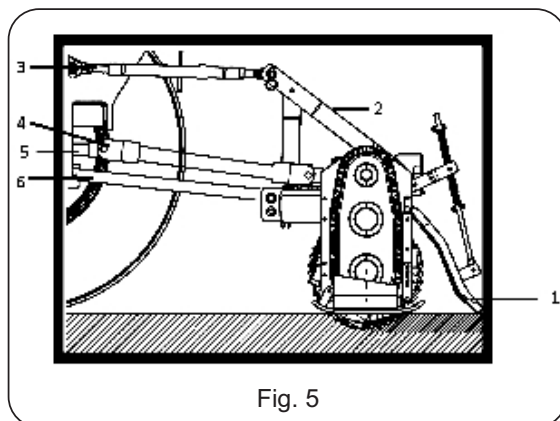

Fig. 5
- 25) It is absolutely forbidden to stand between the tractor and the machine (Fig. 5) when the engine is running and the propeller shaft is engaged without having first engaged the hand brake. Keep a safe distance from the rotating/moving parts at work to avoid being hit by possible flying stones, etc.
- 29) It is absolutely forbidden to stand between the tractor and the implement when manoeuvring the lift control from the outside (Fig. 5).